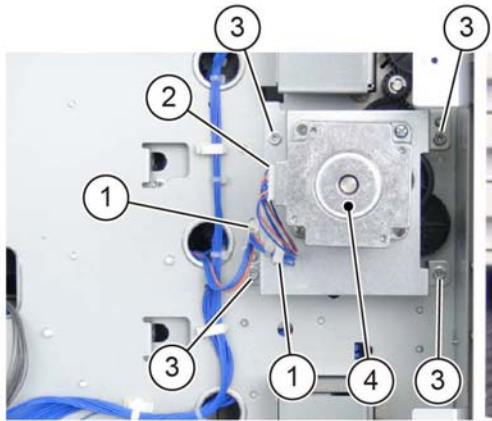

Figure 2 3TM takeaway motor removal
2. Remove the 3TM takeaway motor, Figure 2:
- a. Release the clamp (1).
- b. Disconnect the connector (2).
- c. Remove four screws (3).
- d. Remove the 3TM takeaway motor (4).